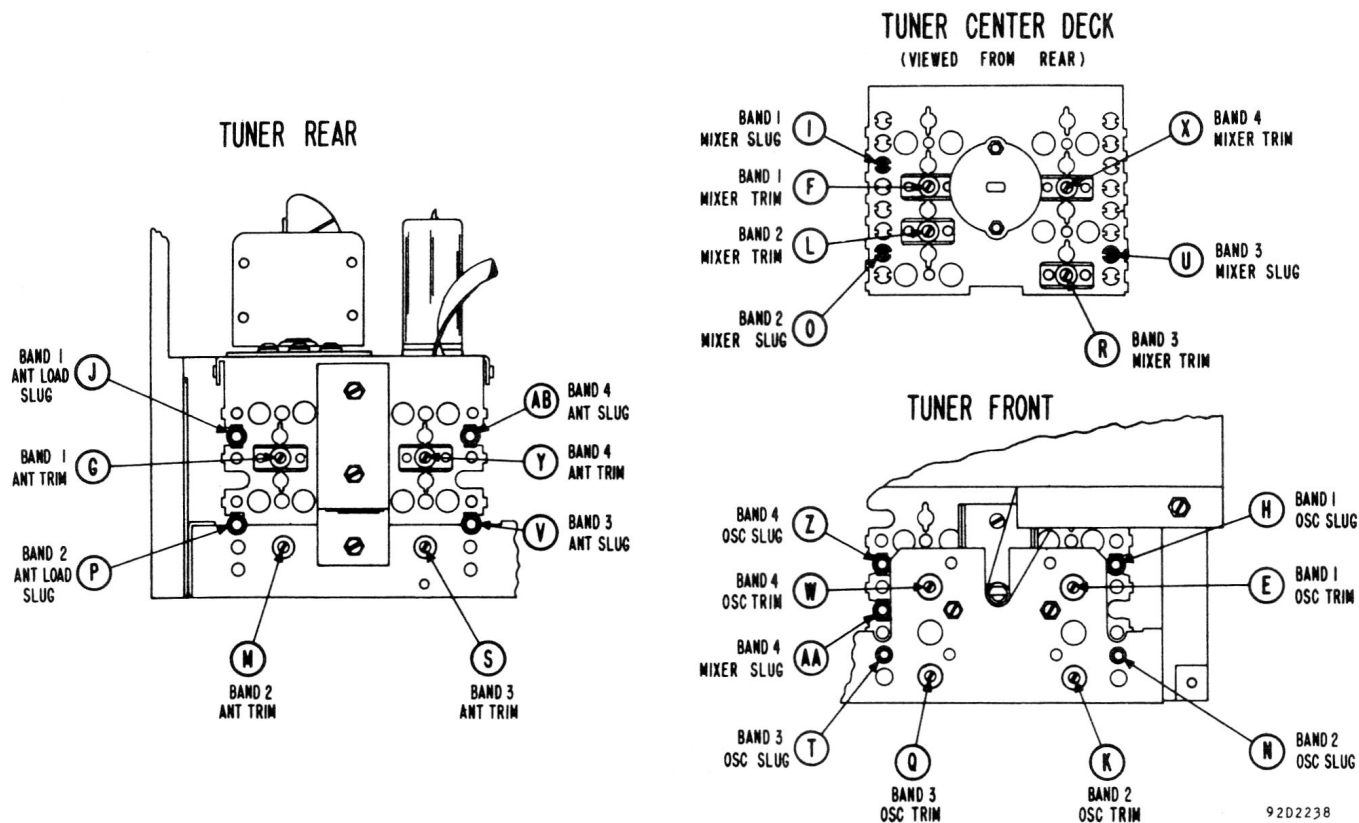

Fig. 5. Tuner Alignment Adjustments
- Refer to Figs. 5 and 6 for location of the alignment adjustments.